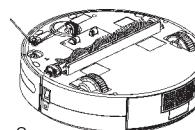

Figure 2
1. Hold the middle part of the filter bracket located on the suction inlet by hand (See Figure 1) and then draw horizontally (See Figure 2).